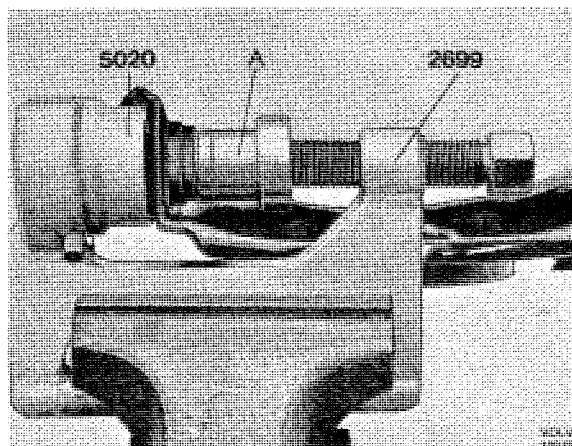

Fig. 6-38. Removing rubber bushing, lower control arm
1. Tension the press tool 2699 in the vise. Remove the washer (1, Fig. 6-13), the rubber ring (2) and the spacing ring (3). Press the bushings out with counterhold 5020. Use drift 2904 for bushings where diagonal tires are fitted and 2905 for radial tires. The tools are placed as shown in Fig. 6-38. The bushings are, of course, pressed out in the direction towards their flanges.
2. Press in the bushings with the control arm and drift (A, Fig. 6-38) facing in the opposite direction.